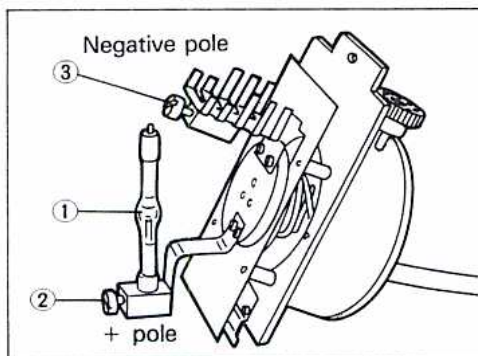

Fig. 3
- (2) Remove the bulb clamping screws ② and ③ (Fig. 3) to detach the transferral bulb seating retainer. (Remove the old bulb when replacing the bulb.)
- (3) Placing the positive (+) pole of mercury burner ① downward, clamp the (+) pole with the screw ②. Next, loosen the screw ③ for the negative (-) pole (with "UP" indicator) and insert the bulb's (-) pole into the (-) pole insertion slot. Securely tighten the screw ③. (Fig. 3)